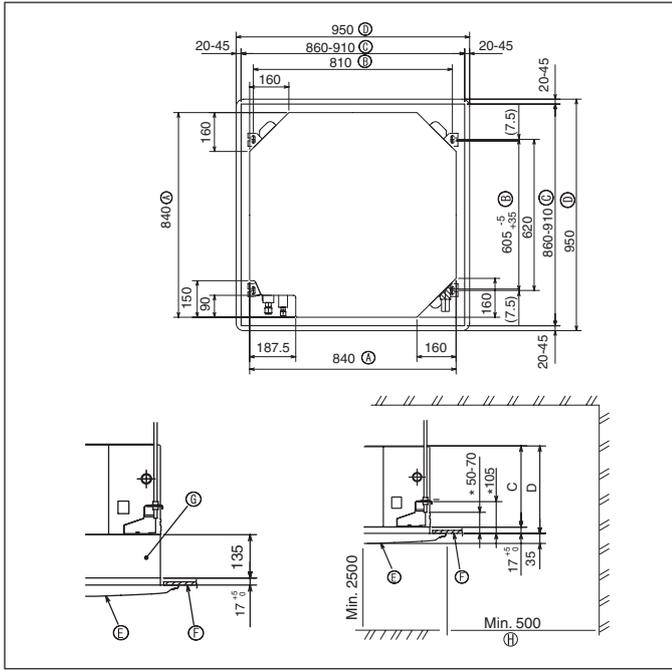

Fig. 2-2
## 2.2. Ceiling openings and suspension bolt installation locations (Fig. 2-2)
- \* The dimensions of ceiling opening can be regulated within the range shown in Fig.2-2; so center the main unit against the opening of ceiling, ensuring that the respective opposite sides on all sides of the clearance between them becomes identical.